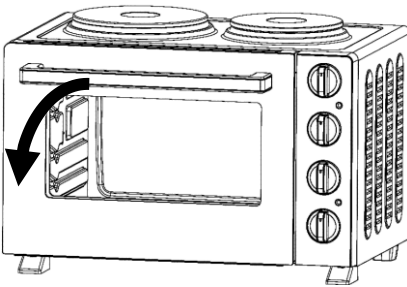
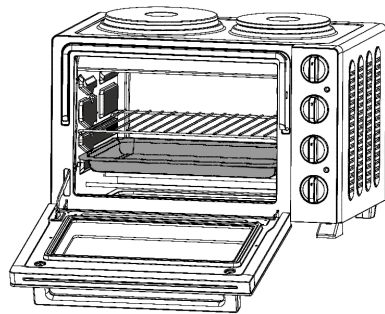

Fig. 10
Fig. 11
- How to open and close the door – see figs. 10 -12
7. Open the oven door (fig 10) and place the food into the oven using the grill rack and / or baking tray (Fig. 11).